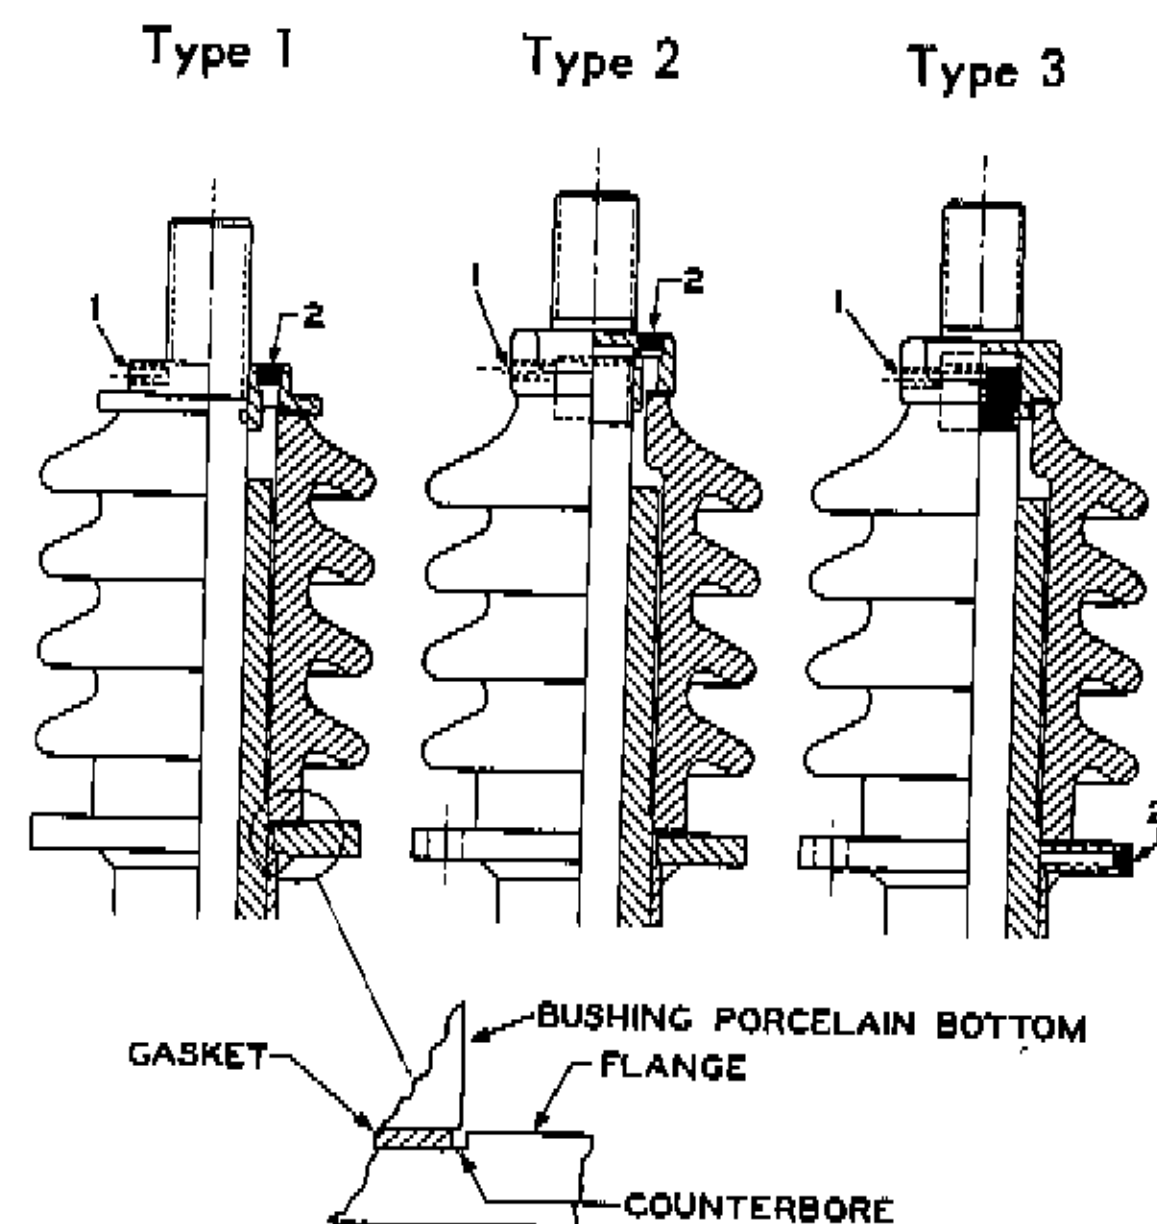

FIGURE 9
If leakage is detected make sure the bushing porcelain bottom is concentric with the counter-bore in the mounting flange. If not, loosen set screw 1 shown in Figure 9. Then loosen top flange slightly. Tap porcelain bottom with wood block so porcelain will be concentric. Retighten top flange to 110 ft. lbs. and turn in setscrew.
To refill with oil, use oil filler screw marked number 2 on Figure 9. To refill a Type 3 bushing; set screw (1) should be backed off and the top terminal removed while holding down the porcelain to maintain a seal at lower end. The oil level should be approximately ¾ of an inch below top edge of porcelain; refill if necessary. The top terminal is then to be turned back on until surfaces meet, concentricity of porcelain to counter-bore checked and the top terminal torqued to 110 ft. lbs. minimum. The set screw (1) is then retightened.